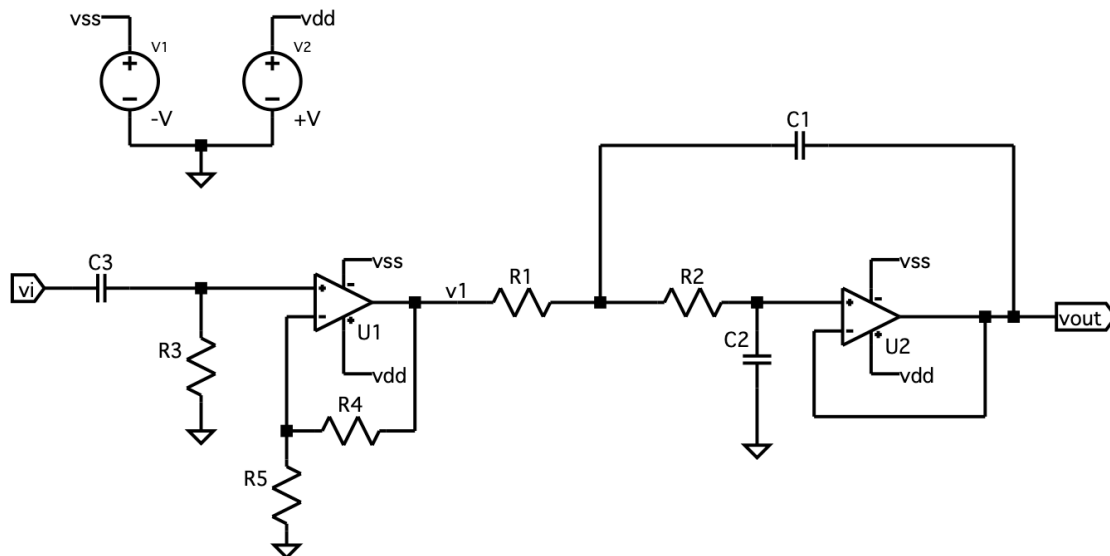

Figure 2 - Active filter.
Consider the active filter shown in Figure 2. This filter is composed of the cascade of one 1st order filter stage followed by one 2nd order Sallen-Key stage.
- Modify the circuit of Figure 2 to operate with only one power supply, i.e., propose a single supply version.